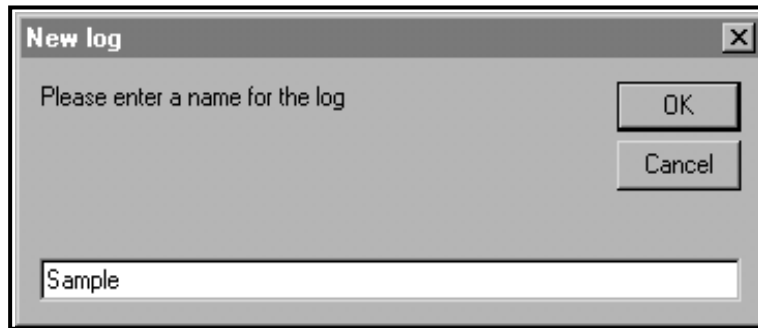

Figure 17: Log Name Dialog Box
5. Enter a log *file name* (“Sample” in this case) in the dialog box shown in Figure 17. Click on the **[OK]** option button.